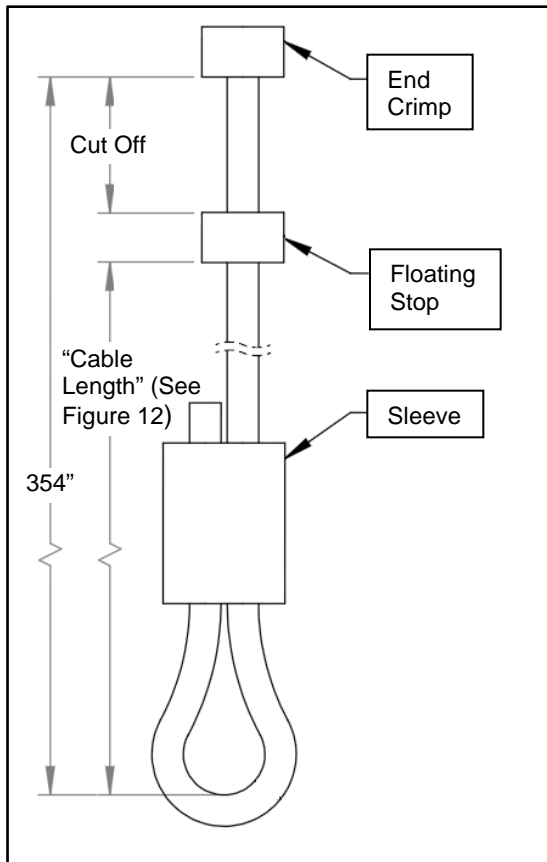

Figure 30
2. Crimp the floating stop on the Counterbalance-Lift cable assembly to the specified "Cable Length" dimension listed in the Object List. Do this for both cable assemblies. (See Figure 12 and Figure 30)
3. Cut off the excess cable after the Floating Stop if necessary. Do this for both cable assemblies. (See Figure 30)
IMPORTANT: Cable Assembly length-Floating Stop spacing is critical as they MUST be SPACED IDENTICALLY as in Figure 30.